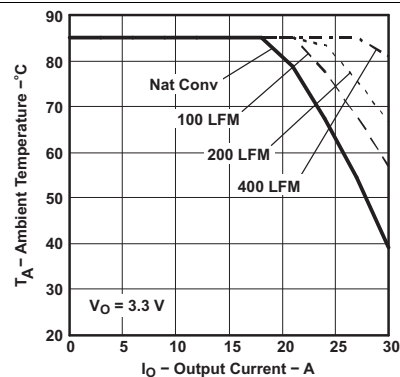
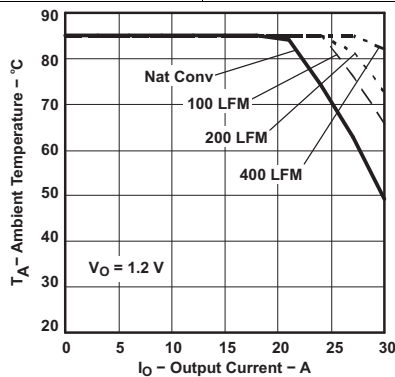

Figure 9. Ambient Temperature vs. Output Current
Figure 10. Ambient Temperature vs. Output Current
- (14) The temperature derating curves represent the conditions at which internal components are at or below the manufacturer's maximum operating temperatures. Derating limits apply to modules soldered directly to a 100 mm × 100 mm double-sided PCB with 2 oz. copper. Applies to Figure 9 and Figure 10.